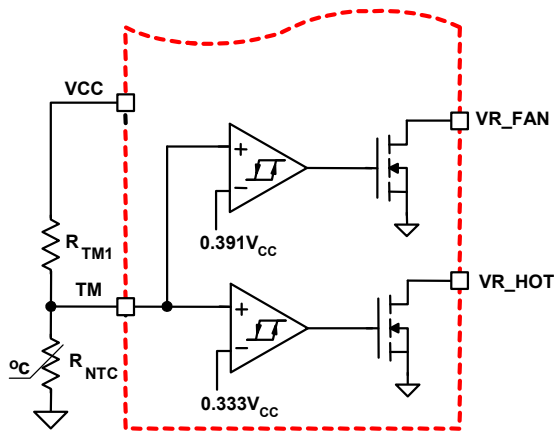
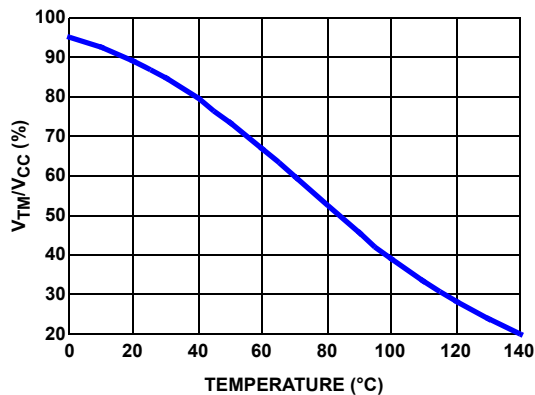

FIGURE 14. BLOCK DIAGRAM OF THERMAL MONITORING FUNCTION
FIGURE 15. THE RATIO OF TM VOLTAGE TO NTC TEMPERATURE WITH RECOMMENDED PARTS
The diagram of the thermal monitoring function block is shown in Figure 14. One NTC resistor should be placed close to the power stage of the voltage regulator to sense the operational temperature, and one pull-up resistor is needed to form the voltage divider for TM pin. The NTC thermistor should be placed next to the current sense element of a phase that will remain active when $PSI\#$ is asserted low. As the temperature of the power stage increases, the resistance of the NTC will reduce, resulting in the reduced voltage at the TM pin. Figure 15 shows the TM voltage over temperature for a typical design with a recommended 6.8k Ω NTC (P/N: NTHS0805N02N6801 from Vishay) and 1k Ω resistor RTM1. We recommend using these resistors for accurate temperature compensation.
Based on the VCC voltage, ISL6336, ISL6336A converts the TM pin voltage to a 6-bit digital signal for temperature compensation. With the non-linear A/D converter of ISL6336, ISL6336A, the TM digital signal is linearly proportional to the NTC temperature. For accurate temperature compensation, the ratio of the TM voltage to the NTC temperature of the practical design should be similar to that in Figure 15.
1. Properly choose the voltage divider for TM pin to match the TM voltage vs temperature curve with the recommended curve in Figure 15.